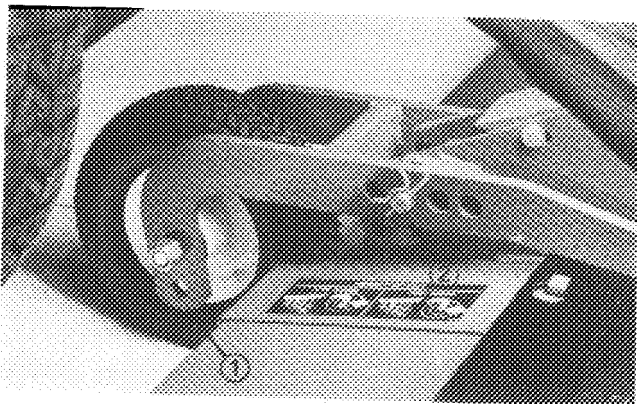
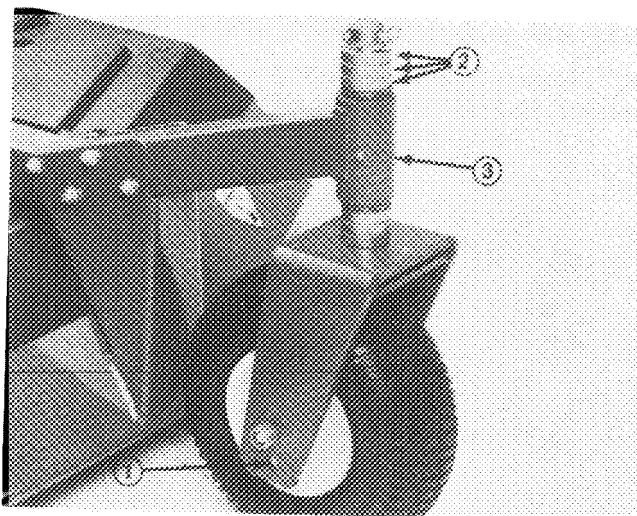

Figure 67
Figure 68
1. Adjust cutting unit to highest height-of-cut. Position castor wheel axles in lower castor fork holes (Fig. 67, 68). If checking front cutting unit, reposition two rear castor's clevis pins to highest height-of-cut setting (Fig. 67). On the front castors, move all castor spacers to the underside of the castor arms (Fig. 68). To check outboard units, move all castor shaft spacers to the underside of the castor arms and castor wheel axles to lower castor fork holes.